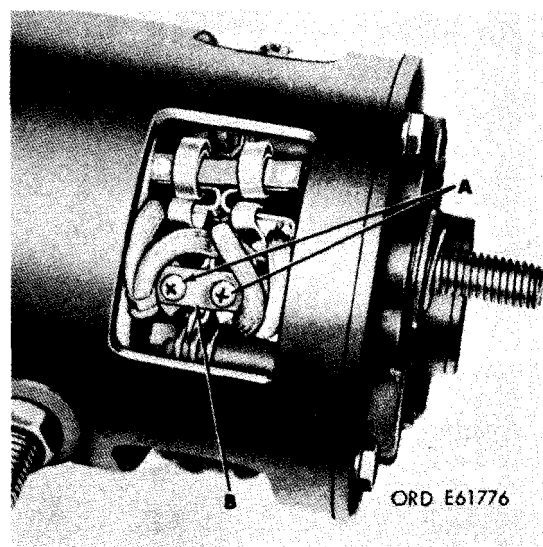

Figure 3-18. Disconnecting or connecting brushes.
b. Remove two cross-recessed head screws (A, fig. 3-18) and one lock plate (B) from each of four brush attaching locations.